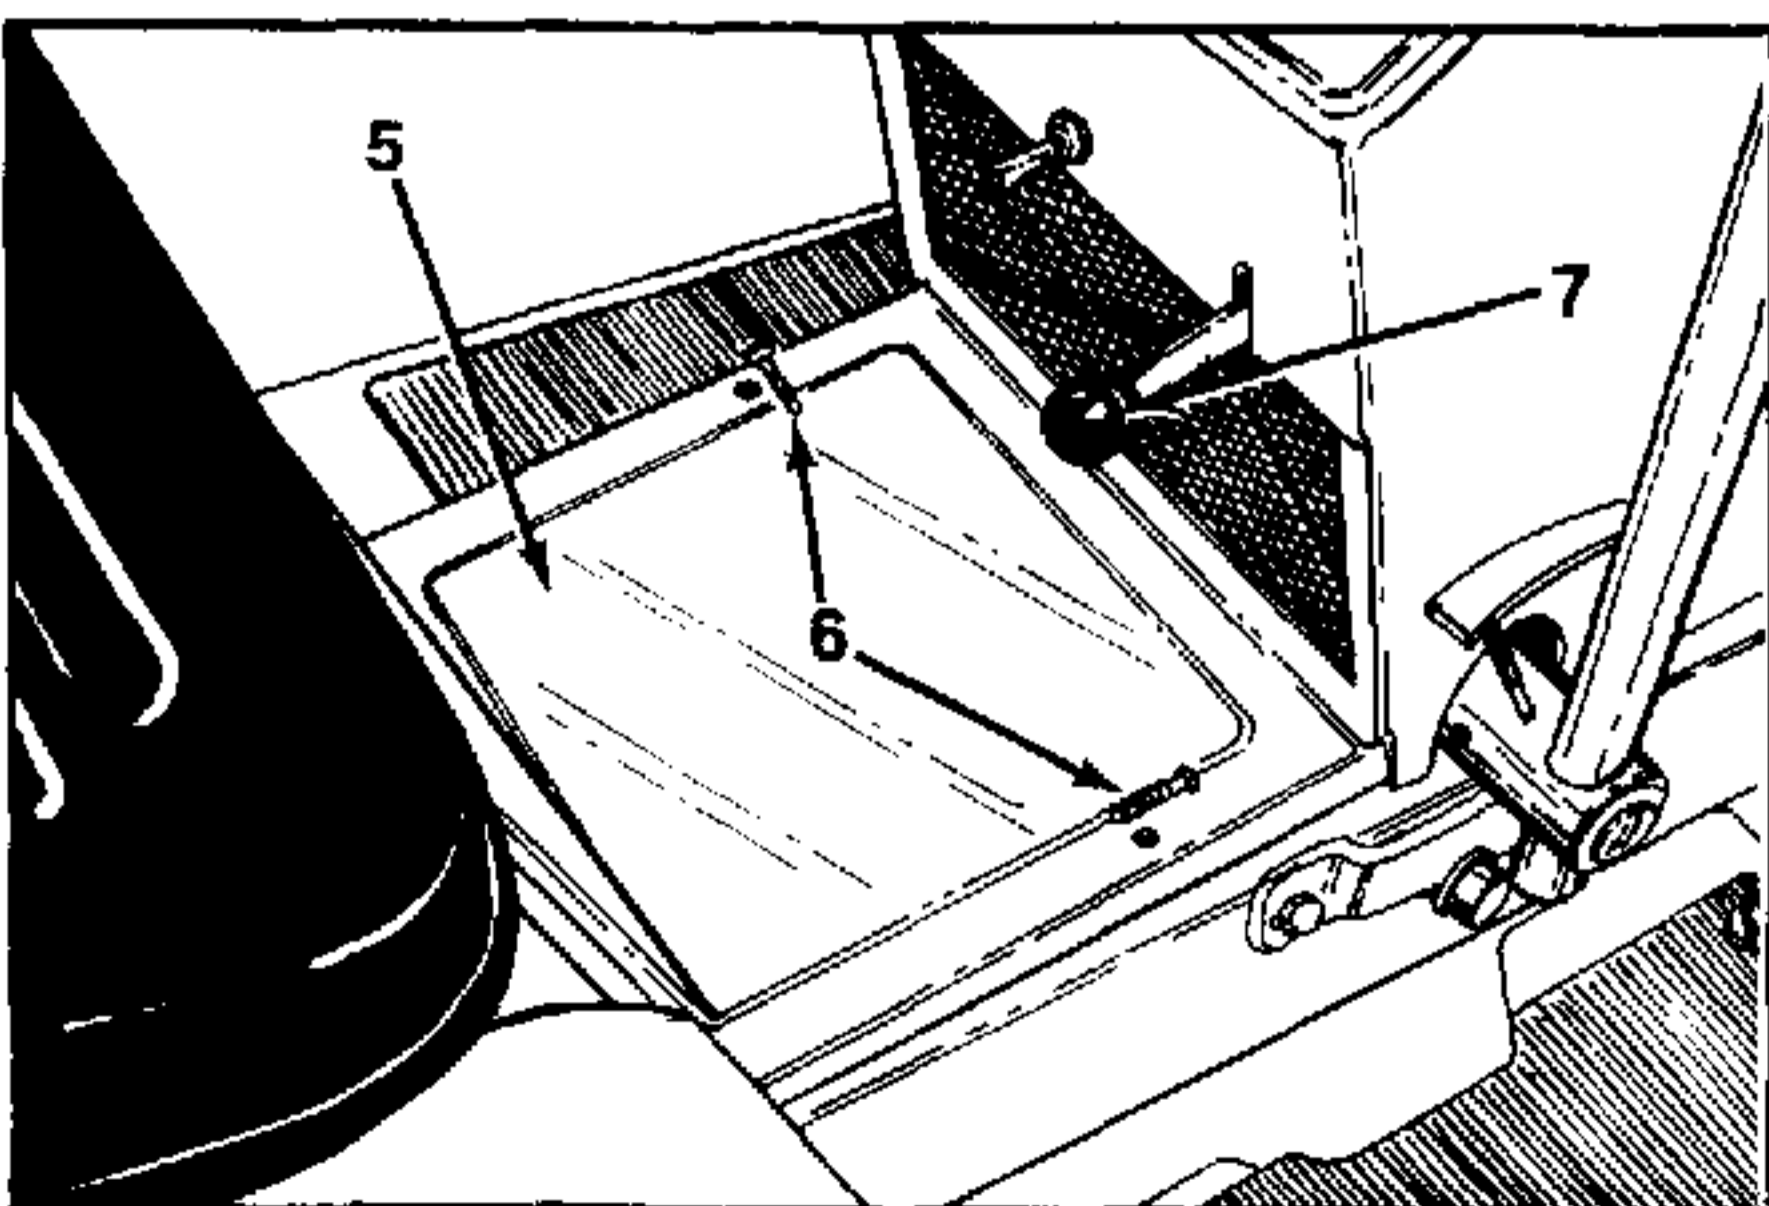
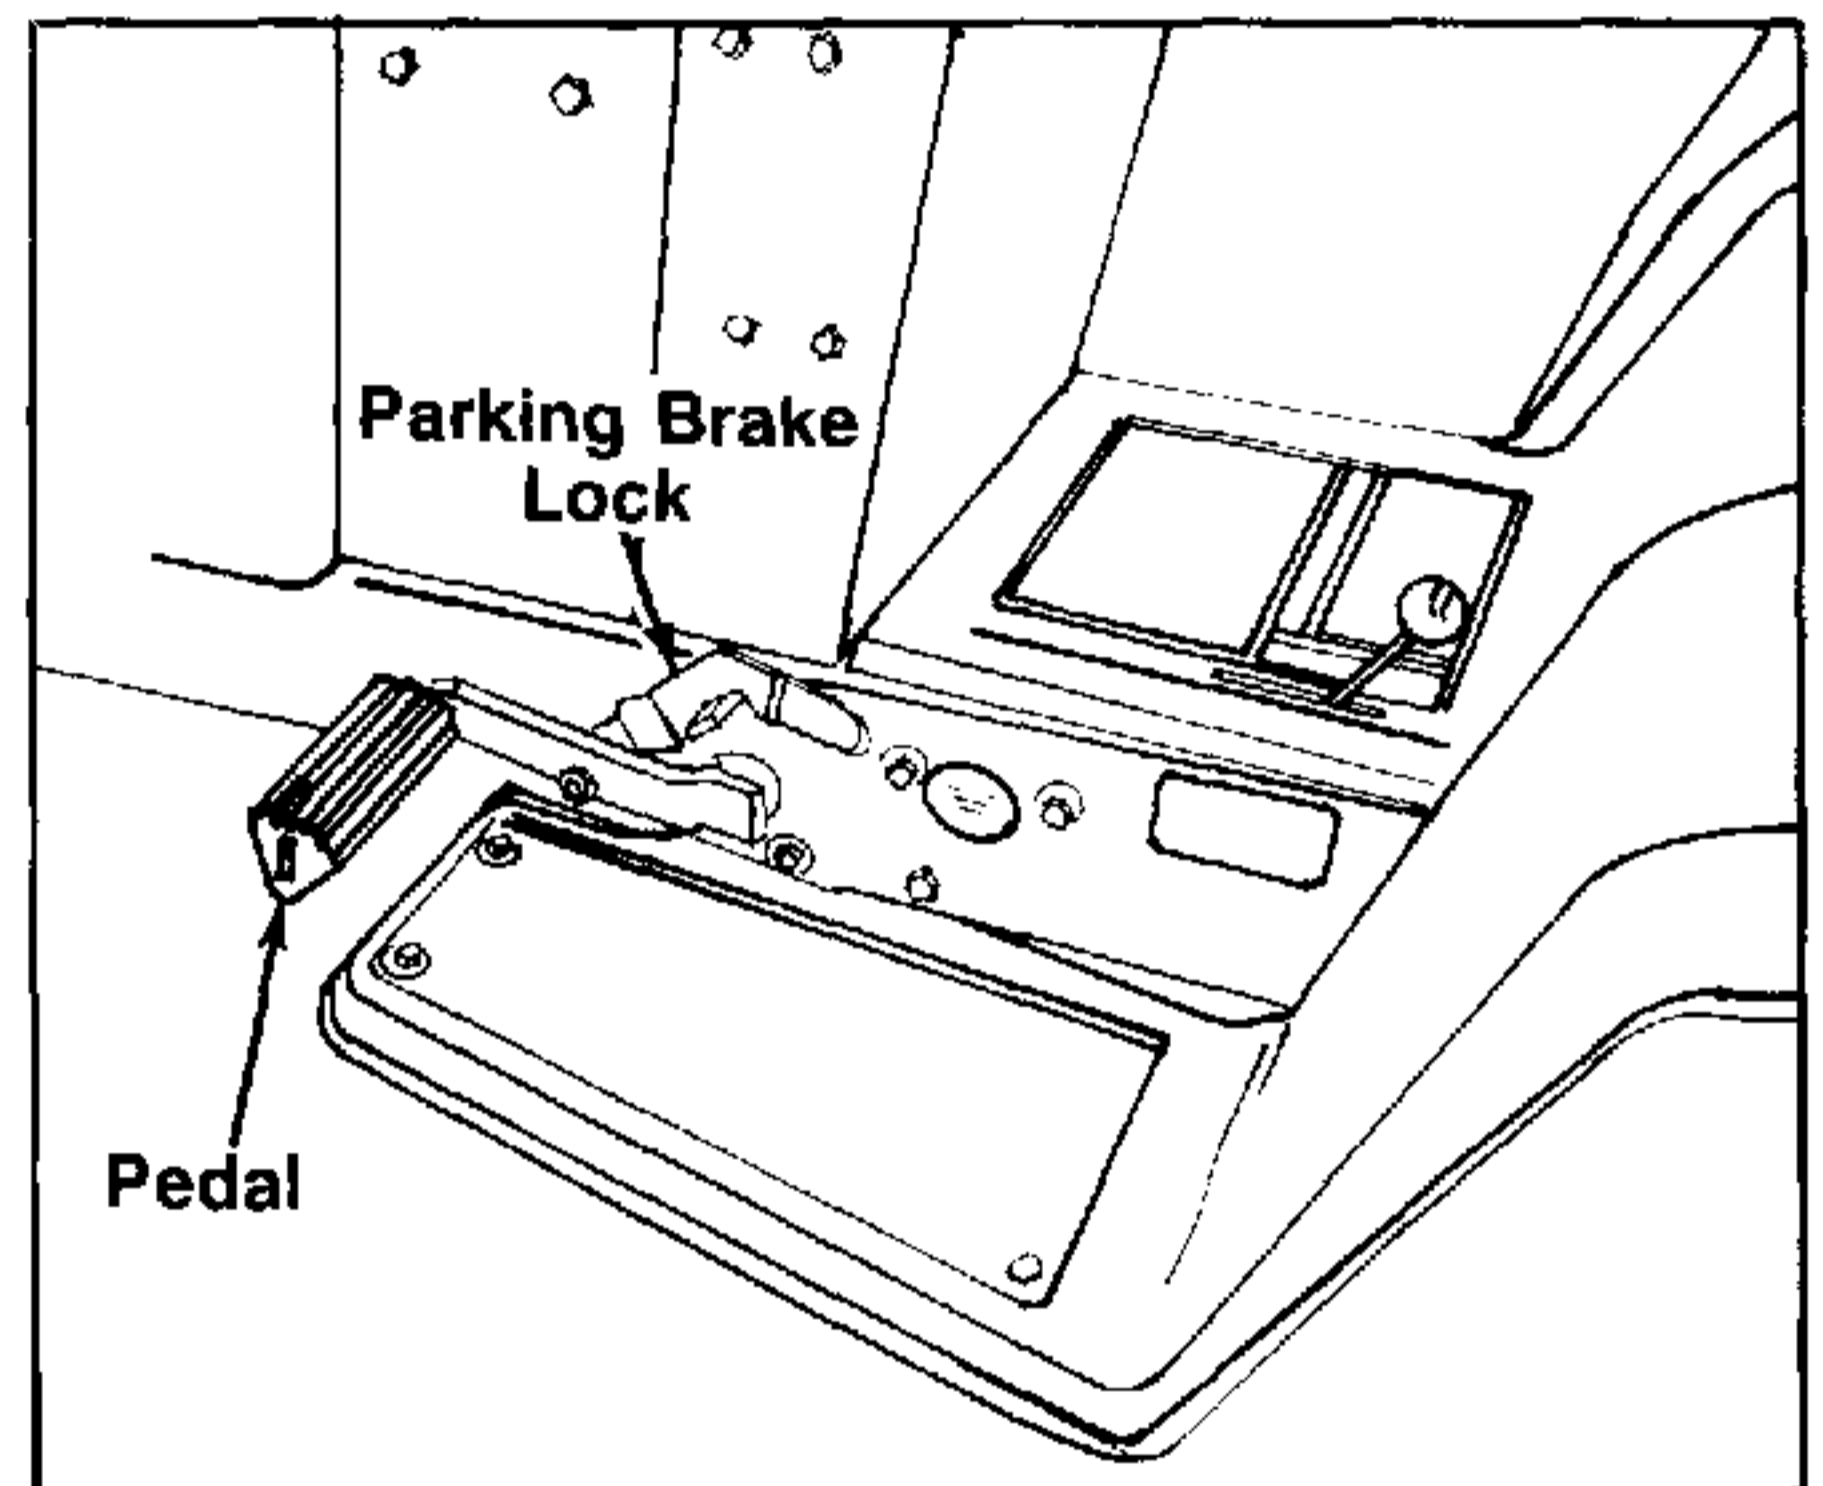
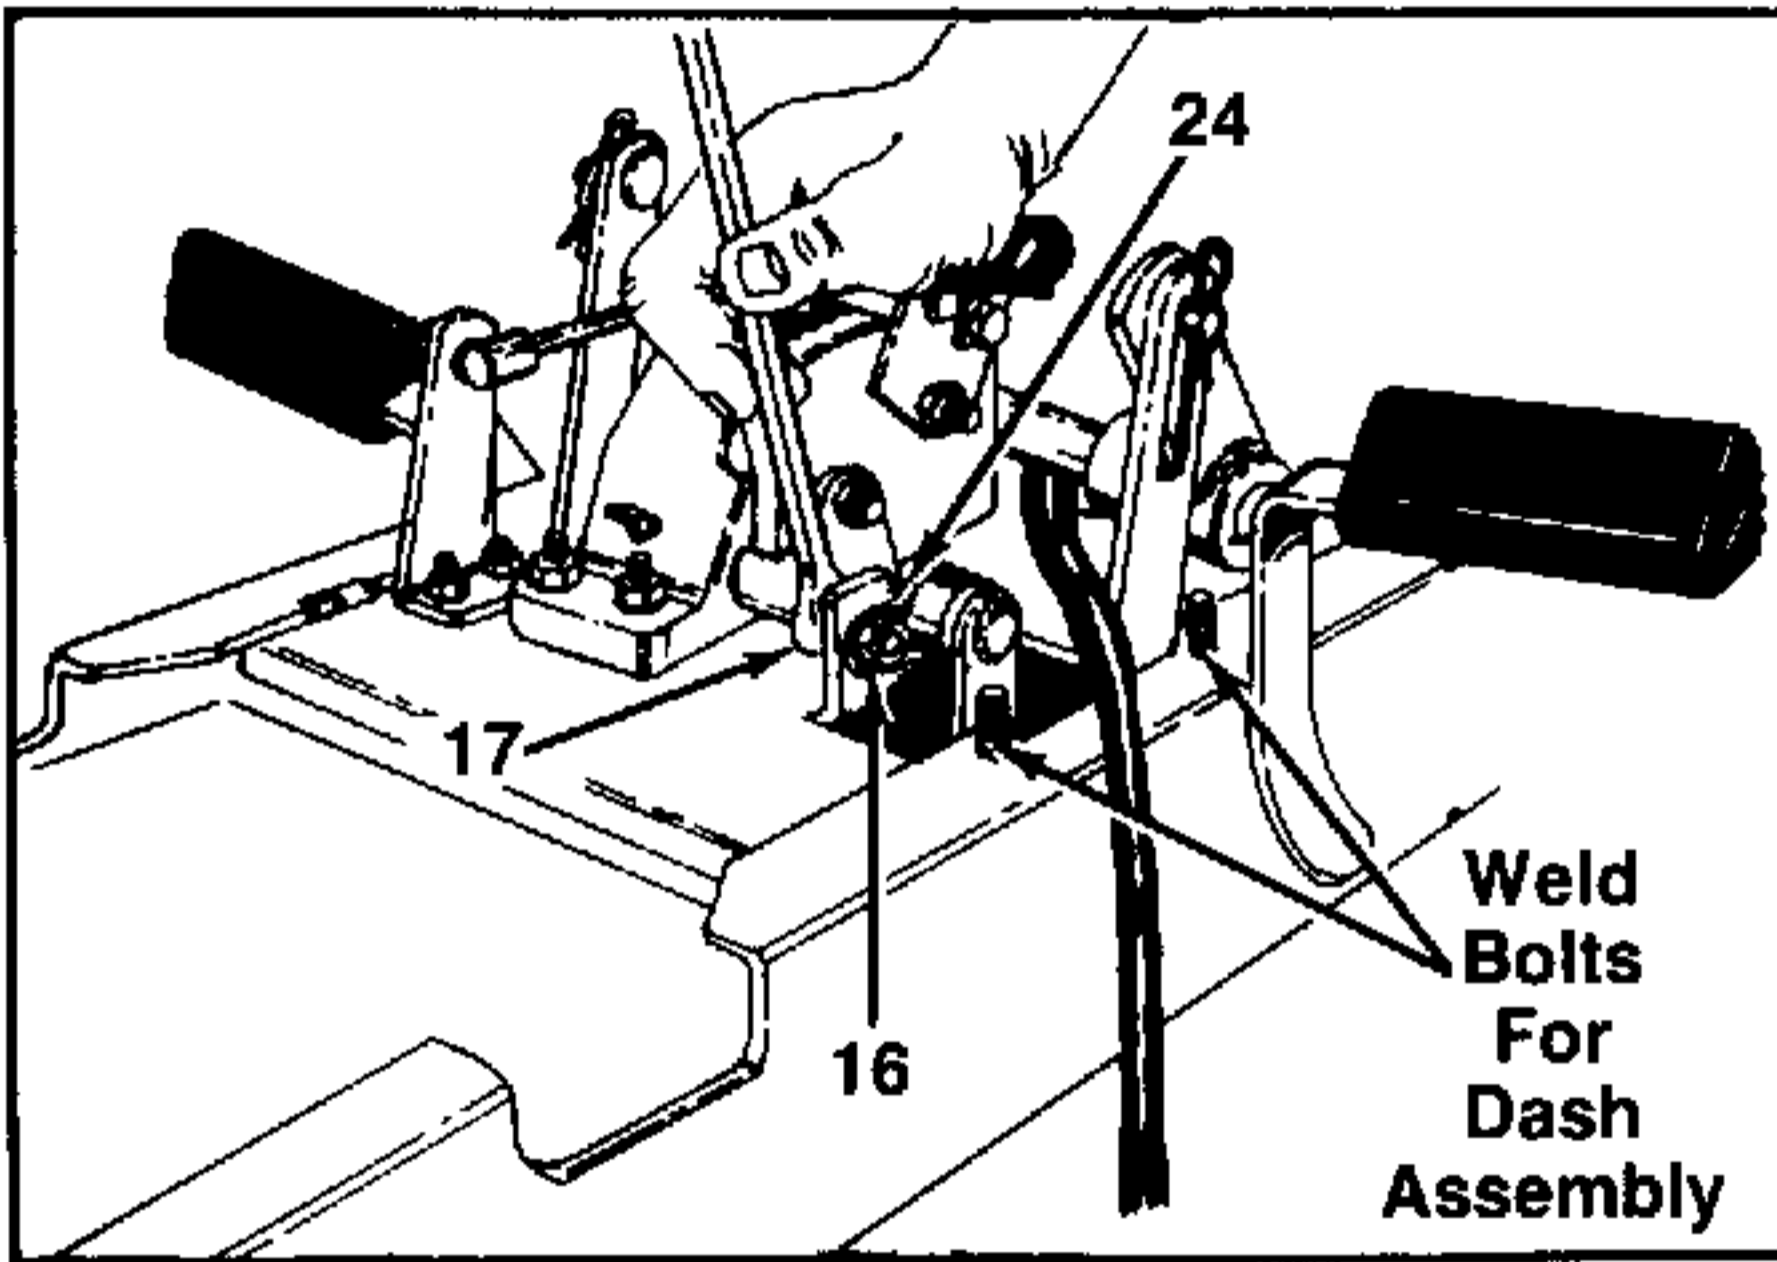

FIGURE 3.
FIGURE 3A.
FIGURE 8.
3. Remove single hex bolt at rear of frame cover. Loosen one of the seat hinge brackets. Disconnect the two wire harness connector to the seat switch and remove the seat. Remove the frame cover panel (Ref. 5) by removing two self-tapping screws (Ref. 6). See figure 3.
4. Unscrew the parking brake knob and remove (Ref. 7). See figure 3. **NOTE:** Parking brake "Lock" is at pedal on 1988 and 1989 units. See figure 3A.
11. Remove the nut (Ref. 16) and bolt (Ref. 17) holding the flange bearing (Ref. 24) to the chassis. See figure 8.
Figure 8 shows two pedals; there is only one pedal on 1988 and 1989 models. Refer to figure 3A, on page 2-2 for reference.